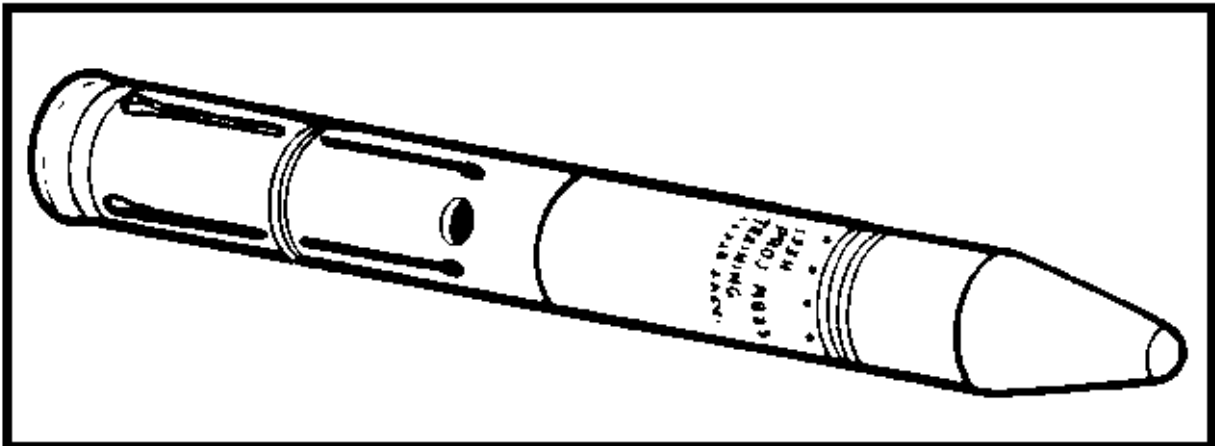

Figure 21. M823 projectile.
(13) Projectile, 155-mm, training, M823. This projectile is designed to train 155-mm howitzer weapon crews in the handling and setting of the M712 projectile. It simulates the M712 in weight, center of gravity, and external appearance (Figure 21). It contains code and time switches that are set to simulate pre fire activity by the crew. It is shipped and stored in the same container as the M712, and is color-coded bronze for easy identification.